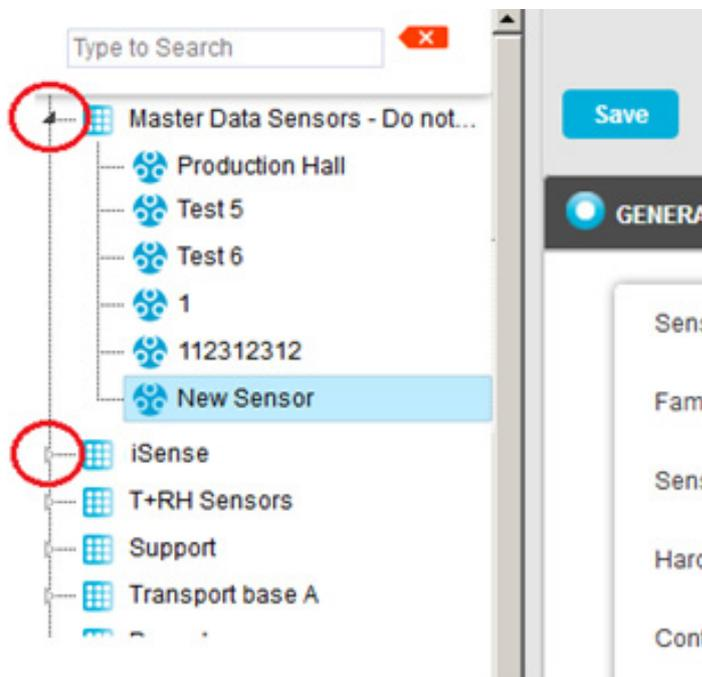

Figure 7
- i. In the left-hand list of the Zone's **Edit Mode** window, click on the small 'arrow' symbol to display a list of the Sensor Units associated with the Zone. See Figure 7 below: